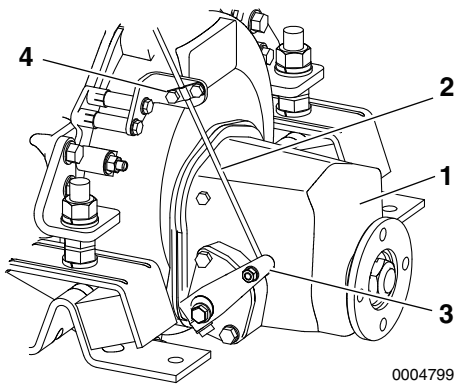

Figure 5
1. Check that the control lever (**Figure 5, (3)**) moves to the correct position when the remote control cable handle is moved to the NEUTRAL, FORWARD and REVERSE positions.
2. Use the NEUTRAL position as the standard for adjustment. When there is deviation, loosen the bracket (**Figure 5, (4)**) for the remote control cable on the clutch side and adjust.